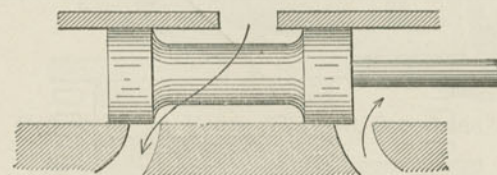

Fig. 160. Piston Valve.
*A. Yes; as seen in Fig. 160.*